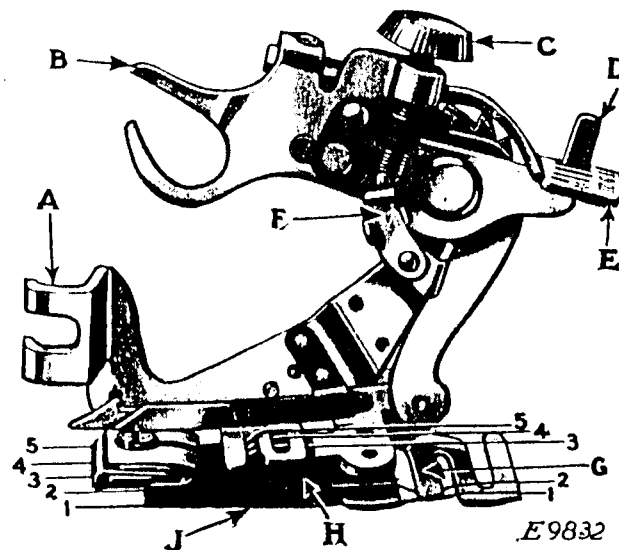
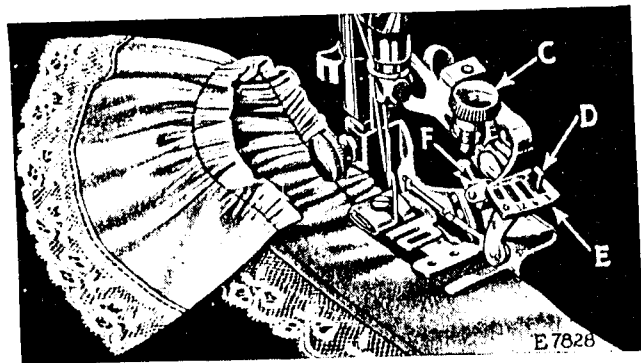
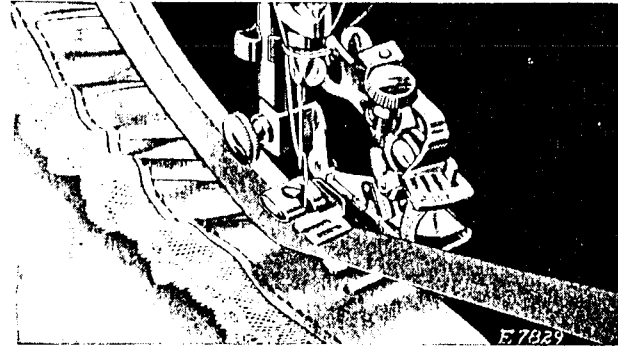
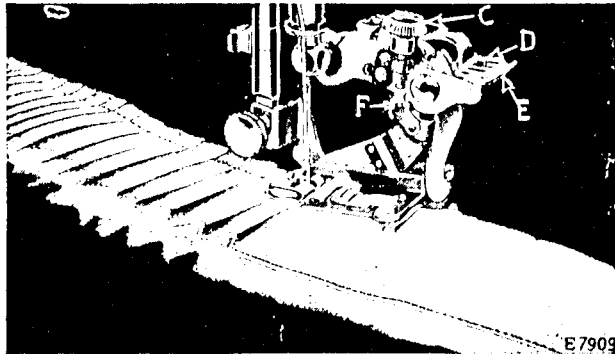

FIG. 26. THE RUFFLER AND ITS PARTS
Fig. 27
FIG. 29
FIG. 31
Lines 1, 2, 3, 4 and 5 shown in Fig. 26 indicate where the material is to be placed for various operations, as follows:
Refer to Fig. 26 when inserting the material in the ruffler.
(SEE REFERENCES IN FIG. 26)
Raise the needle bar to its highest point and remove the presser foot. Attach the ruffler foot (A, Fig. 26) to the presser bar by means of the thumb screw, at the same time placing the fork arm (B, Fig. 26) astride the needle clamp as shown in Fig. 27.
The adjusting finger (F, Fig. 27) is not intended for gathering and should be moved forward or away from the needle, as shown in Fig. 27.
Raise the adjusting lever (E, Fig. 27) and move it to the left so that the projection (D, Fig. 27) will enter the slot marked "1" in the adjusting lever (E) when the lever is released. The ruffling blade will then move forward and back once at every stitch. Insert the material to be ruffled between the two blue blades, following the line 2 in Fig. 26. Draw the material slightly back of the needle, lower the presser bar and commence to sew.
To make fine gathering, shorten the stroke of the ruffling blade by turning the adjusting screw (C, Fig. 27) upwardly, also shorten the stitch. To make full gathering, lengthen the stroke of the ruffling blade by turning the adjusting screw (C) downwardly, also lengthen the stitch. By varying these adjustments, many pleasing varieties of work can be accomplished.
2, in Fig. 26. Place the garment to which the ruffle is to be attached, under the separator blade, following the line 1, in Fig. 26. Proceed the same as for gathering.
Insert the material to be ruffled between the two blue blades, following the line 2, in Fig. 26. Place the garment to which the ruffle is to be attached, under the separator blade, following the line 1, in Fig. 26. Place the material for the facing over the upper blue blade, as shown in Fig. 29, following the line 3, in Fig. 26. The facing may be straight or bias material. If the facing is to be on the right side of the garment, place the garment and
Insert the material to be ruffled between the two blue blades, following the line 2, in Fig. 26. This
The material for piping must measure about $\frac{1}{4}$ inch wide when folded in the centre and is usually cut on the bias. Place the piping material in the ruffler, following the line 4, in Fig. 26, with the folded edge of the piping to the right. The material to which the piping and ruffling are to be sewn should be folded on the edge and inserted in the ruffler, following the line 5, in Fig. 26.
Raise the adjusting lever (E, Fig. 31) and move it to the right so that the projection (D, Fig. 31)
will enter the slot marked "6" in the adjusting lever when the lever is released. The ruffling blade will then move forward and back once at every six stitches. To adjust the ruffling blade to make a plait once at every twelve stitches, place the adjusting lever (E, Fig. 31) so that the projection (D) enters the slot marked "12" in the adjusting lever. Insert the material to be plaited between the two blue blades, following the line 2, (Fig. 26). The size or width of plaits is regulated by the adjusting screw
(C, Fig. 31) and the adjusting finger (F, Fig. 31). To make a wider plait, move the adjusting finger (F) back or toward the needle and turn the adjusting screw (C) downwardly. To make a smaller plait, turn the adjusting screw (C) upwardly. The distance between plaits is regulated by the length of stitch.